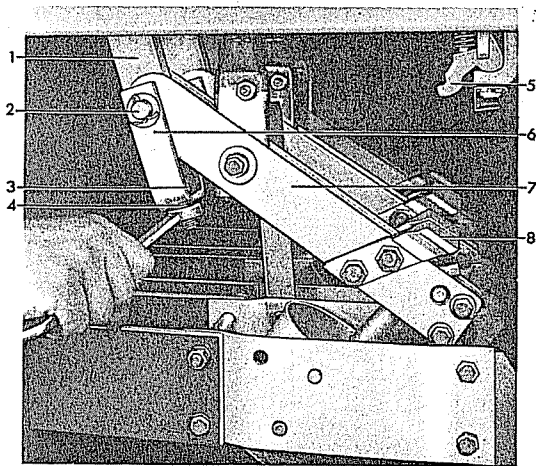
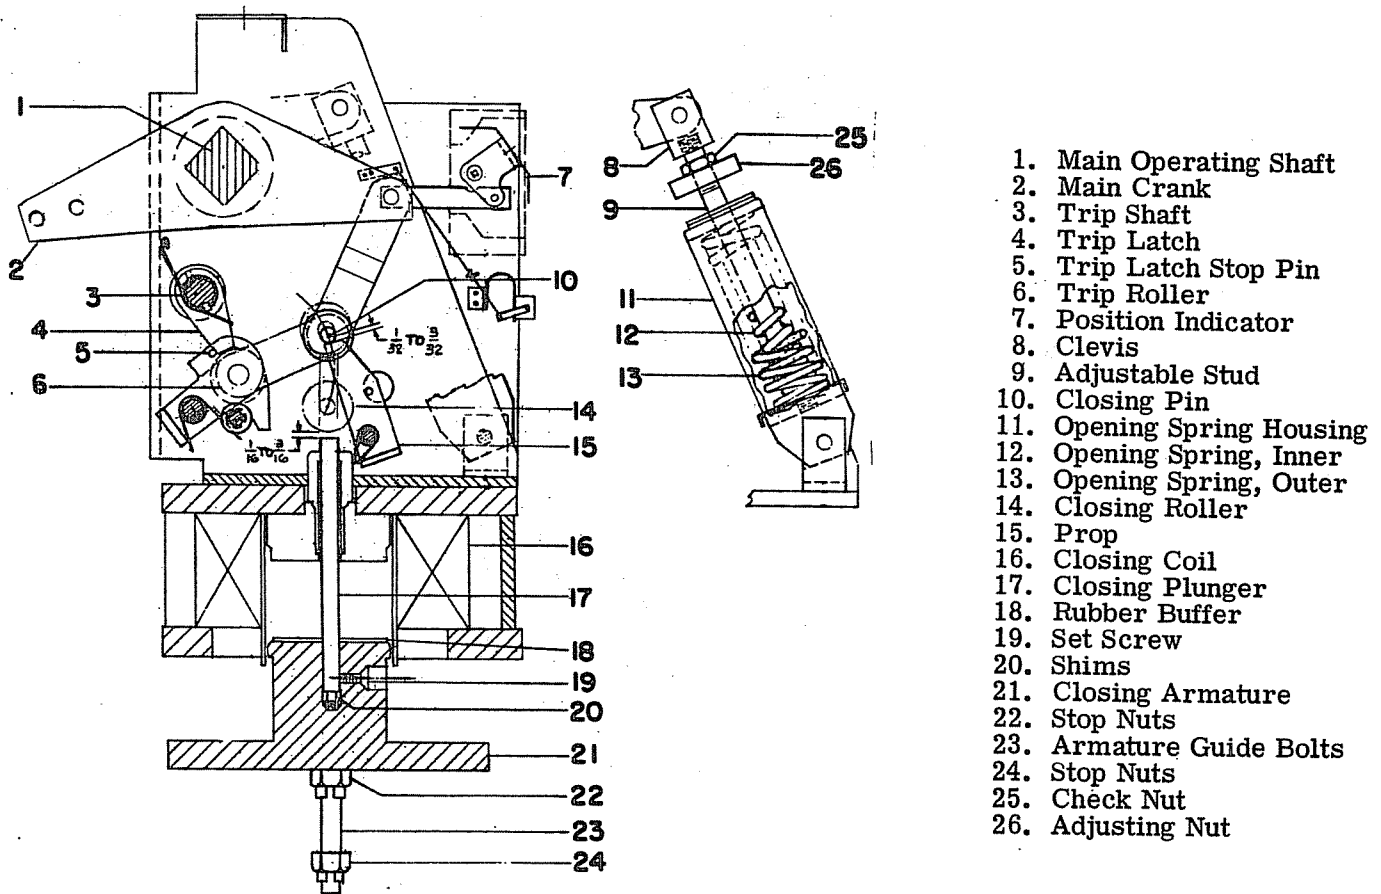

Figure 3 (8039618) Adjustable Coupling For Making Primary Contact Wipe Adjustments
Figure 9 (0962C0772) Cross Section of MS-13 Mechanism in closed position
Refer to Figure 8. With the breaker closed, press the manual trip button allowing the breaker to trip open normally. Do not force the contacts open wider by hand. The gap between the stationary primary contacts (5) and the movable primary contact (8) measured between the closest points, should be  $3-5/8"$  to  $3-15/16"$ . To change this gap, loosen the check nut (25) Figure 9, and turn the adjusting nut (26) on stud (9). Screwing the adjusting nut down will decrease the primary contact gap. Tighten the check nut and re-measure the contact gap (close and trip the breaker before checking the measurement). Whenever the primary contact gap is changed, the primary contact wipe should be rechecked and, if necessary, readjusted.
Refer to Figure 9. The wipe of the trip latch (4) on the trip roller (6) should be from  $3/16"$  to  $1/4"$ . This can be measured by putting a film of grease on the latch, closing the breaker part way, and tripping. The mechanism has the proper trip latch wipe when the latch rests against the stop pin (5). No adjustment is provided and a visual inspection is usually all that is required. If this setting is not correct, look for insufficient travel of the trip shaft (3).
Refer to Figure 9. With the breaker closed as far as possible with the maintenance device, the clearance between the closing pin (10) and the prop (15) should be  $1/32"$  to  $3/32"$ . Measure the prop clearance with a feeler gauge to determine whether or not an adjustment should be made, and if so, exactly how much adjustment will be required. To make the adjustment, it will first be necessary to open the breaker and remove the maintenance operating device. Remove the stop nuts (22 and 24) being careful not to drop the armature (21). Lower the armature from the mechanism and remove the two set screws (19). Remove the closing plunger (17) from the armature and add or subtract the necessary thickness of shims (20) to give the required adjustment, then replace the closing plunger, screwing it down against the shims. Using a small drill, spot the closing plunger through the set screw hole. Replace the set screws. Remount the armature on the breaker. After reassembly, remount the maintenance closing device and check the adjustment.
Refer to Figure 9. With the breaker in the open position, the clearance between the closing plunger (17) and the closing roller (14) should be  $1/16"$  to  $3/16"$ . To obtain this clearance, the nuts (22) on the two armature guide bolts (23) may be raised
Referring to Figure 3, measure the overtravel of the two auxiliary switch plunger. Manually operate the control device by pressing the operating arm (6) the full extent of travel to the rear. With
Operate the solenoid armature plate (12) with the maintenance closing device. The control device plunger (9) should not travel more than  $3/32''$  from the point where the control device trips until the prop (15) Figure 9 falls in place. The plunger should travel a minimum of  $1/32''$  after tripping the control device. The control device arm (7) Figure 3 should have a minimum of  $1/32''$  overtravel with the plunger fully raised by the armature plate.